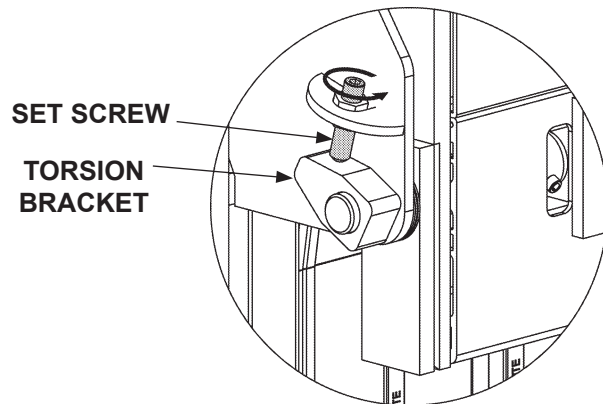

FIG. 19-2
3. On LH runner, adjust the torsion bracket set screw counter-clockwise (**FIG. 19-2**) until there is a small gap between set screw and the torsion bracket (**FIG. FIG. 19-2**). Gap indicates tension is removed from torsion bar.